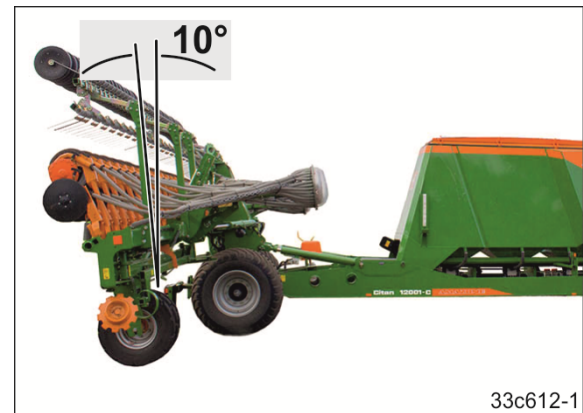

Fig. 230
4. Keep actuating the *green 1* control unit until the rear frame is approx. 10° before the vertical position (see Fig. 230).
Correct the tilt of the rear frame (see Fig. 230) if necessary.